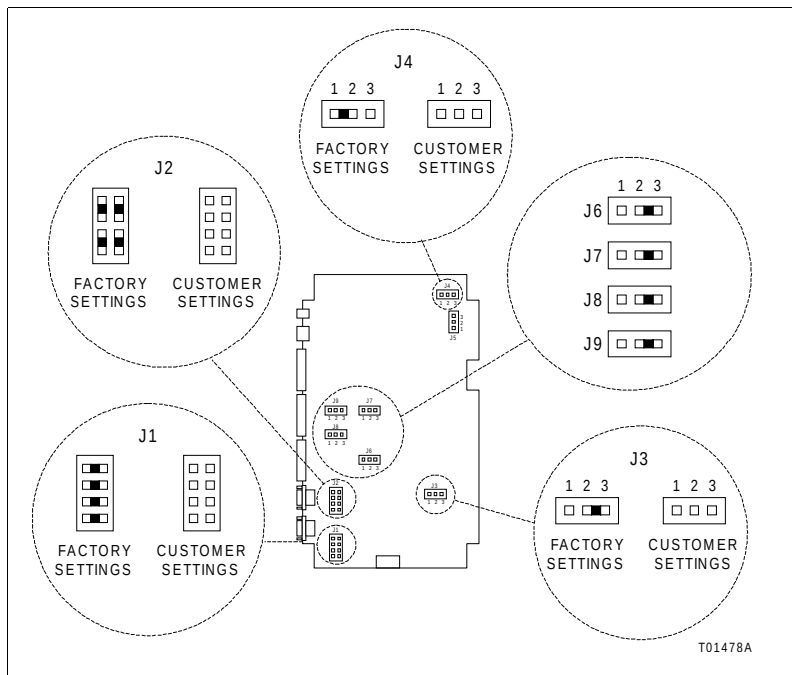

Figure PR7-1. IIMKM02A Module
- ☐ 1. Refer to Table PR7-1 and Figure PR7-1 and set the jumpers as desired, filling in the customer settings in Table PR7-1 and Figure PR7-1.
NOTE: The bold entries in Table PR7-1 and the settings shown in Figure PR7-1 indicate factory settings.